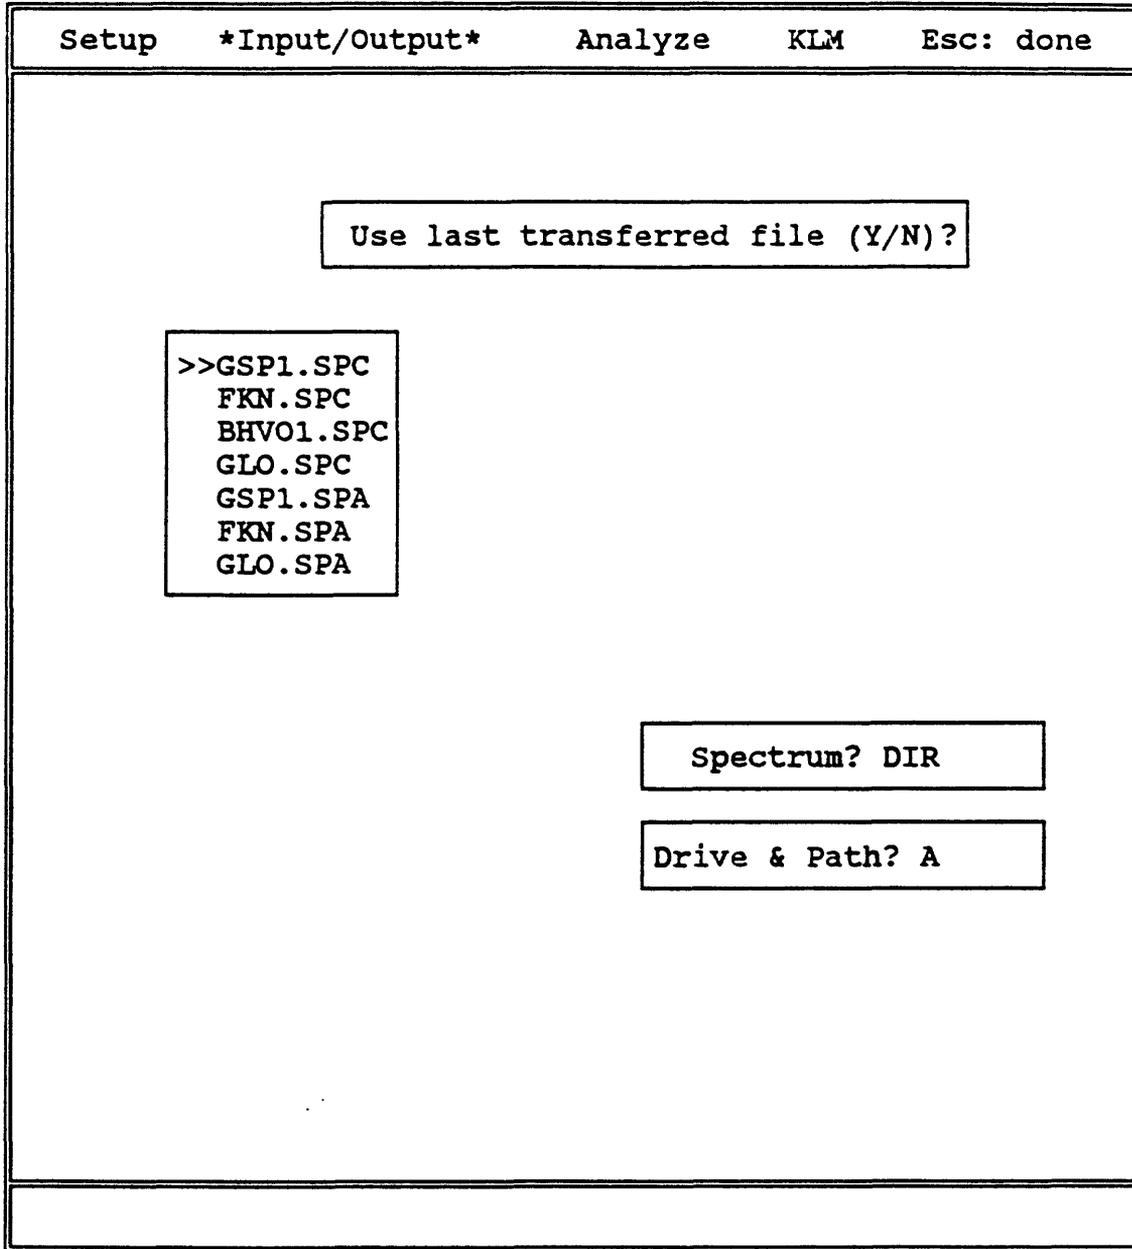

Figure 11. Main menu showing procedures involving the *Recall spectrum* function.
- 3) If "N" is entered, answer the query "*Spectrum?*" by typing the stored spectrum name followed by "Enter". Alternatively type "DIR" and "Enter" followed by the drive and path of stored spectral data (fig. 11).